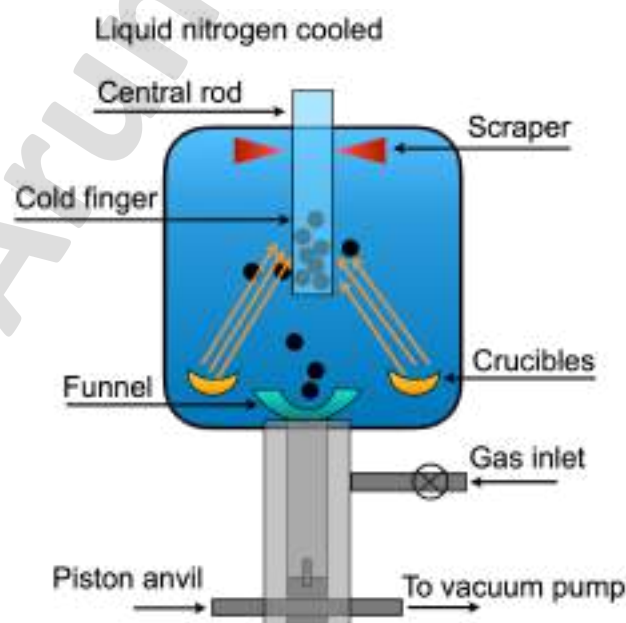

Fig. 24: Schematic of nanoparticle synthesis by PVD method
- The process flow diagram of PVD is shown in Fig.24